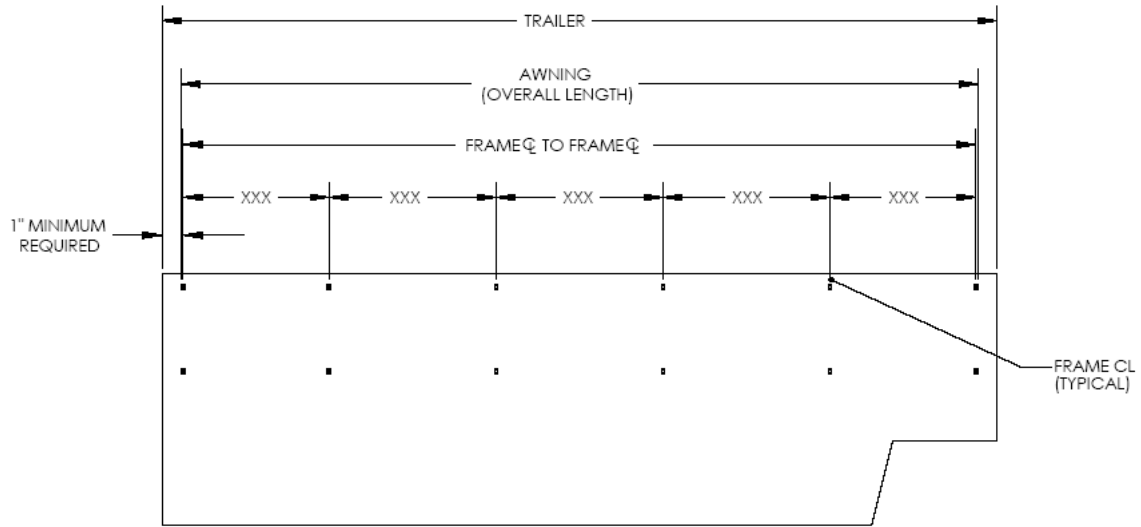

Figure 3 - Typical frame spacing (Actual number of frames may be different than shown)
4. Review your approval/installation drawing to determine the frame spacing (centerline to centerline and overall dimensions are provided) Fig. 3